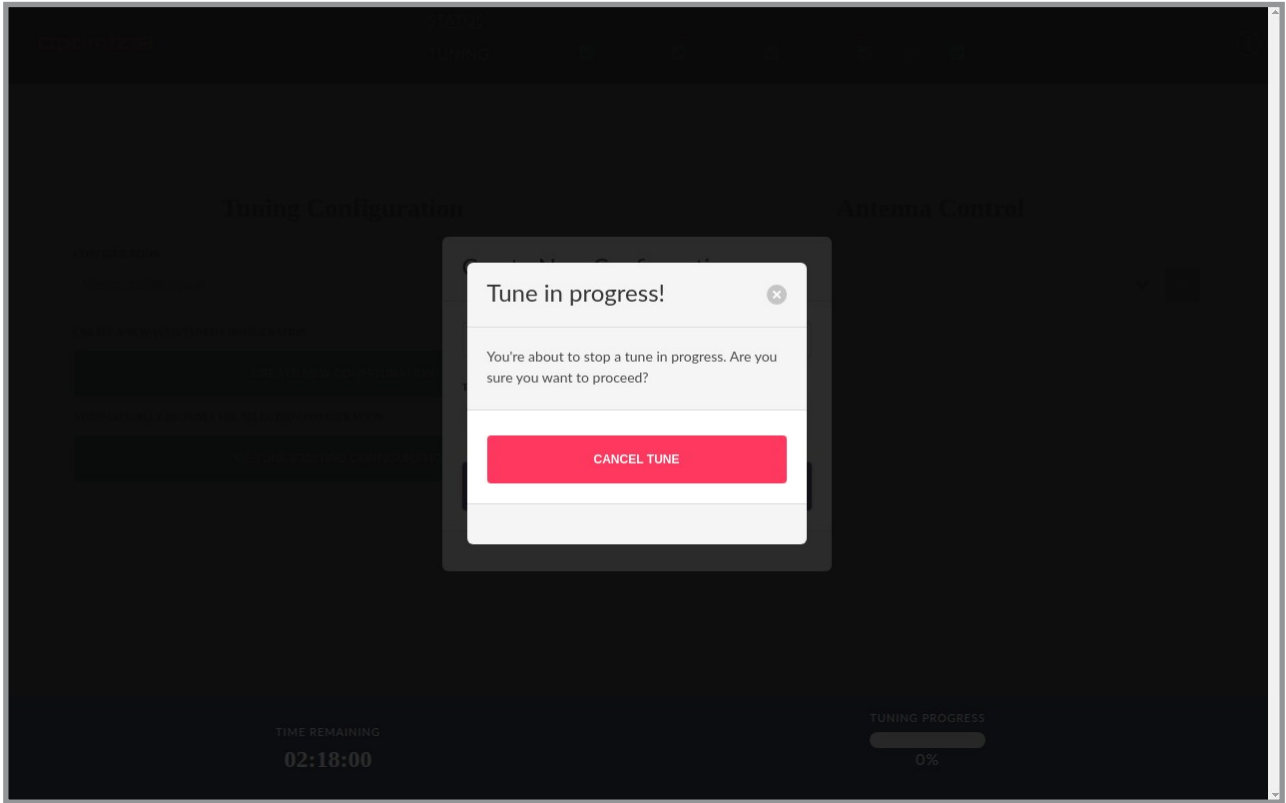

Figure 19
*This cancellation requires confirmation, to avoid accidental interruptions (**Figure 19**).*